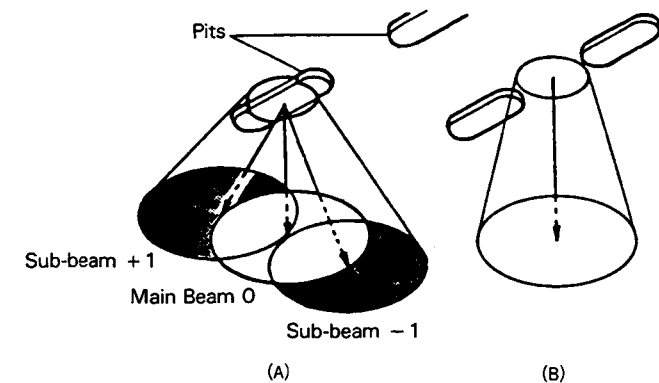

Fig. 12-2 Beam Reflection on the Disc Track Surface
Fig. 12-2 shows the way the signal is reflected off the disc signal track. In Fig. 12-2 (A) the beam is concentrated on a pit and in (B) it is concentrated between pits, or on land, as it is called. Where the beam is reflected off a pit, as in Fig. 12-2 (A), the light is diffracted and the light in the sections of the figure colored black is not reflected back through the objective lens. Only the center part of